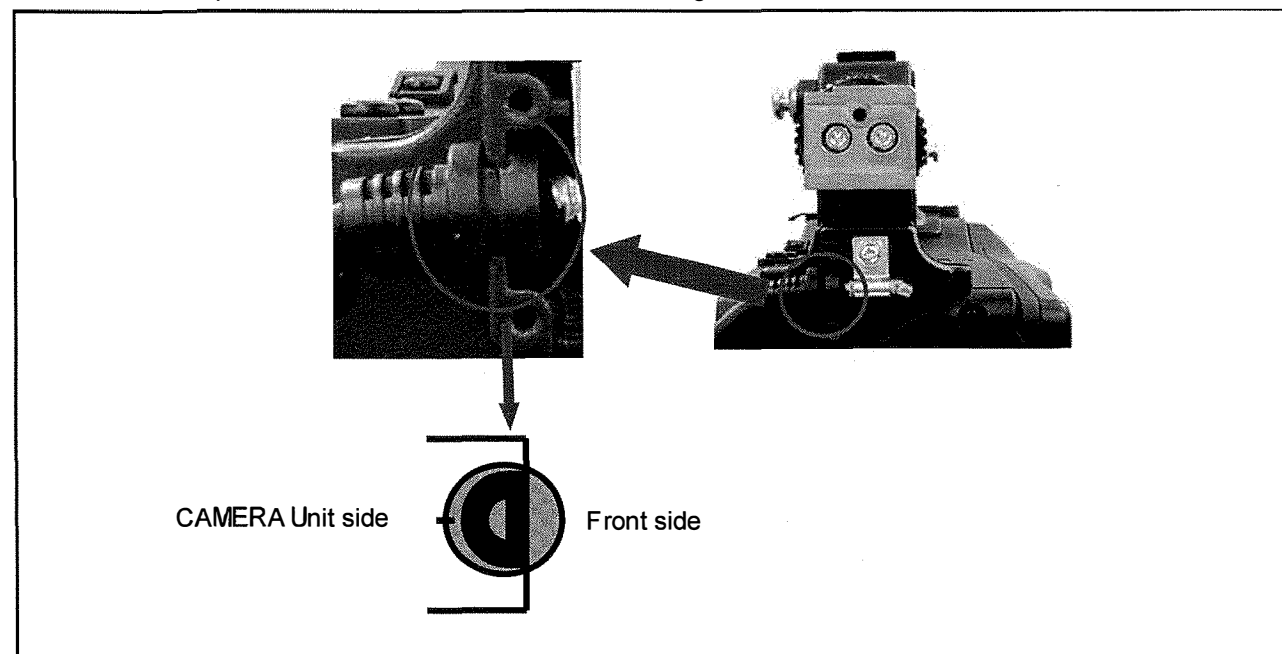

Figure 10-6
2. Match the cut part of EVF cable and frame as shown in figure 10-6.